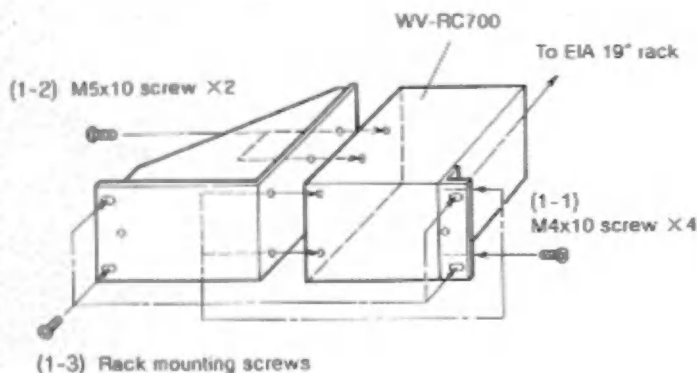

Fig. 1
- 1-1. Fix one Rack-mounting Angle(1) to the either side by using two screws (M4×10, provided).
- 1-2. Attach the Rack-mounting Spacer(2) to the Remote Control Unit by using four screws (Two M5×10 and two M4×10, provided).
- 1-3. Mount the Remote Control Unit onto the EIA 19" rack by using four rack mounting screws (not provided) as shown in Fig. 1.